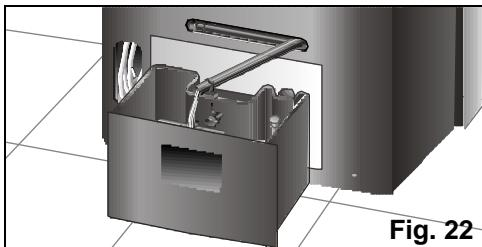

Fig. 22
- ❑ Before tilting it, empty the condensed water from the internal tank by extracting the water drainage pipe from its housing and removing the plug, Fig. 22. Place a receptacle (or the appliance's removable tank) at the end of the water drainage pipe to collect the condensed water or lead the pipe to the nearest drain. Do not forget to replace the plug and reinsert the pipe in its housing when the tank is empty.